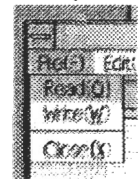

Figure 4-25
- * "File(E)" pull-down menu (Figure 4-25): Used to save the edited character in character data or read it.